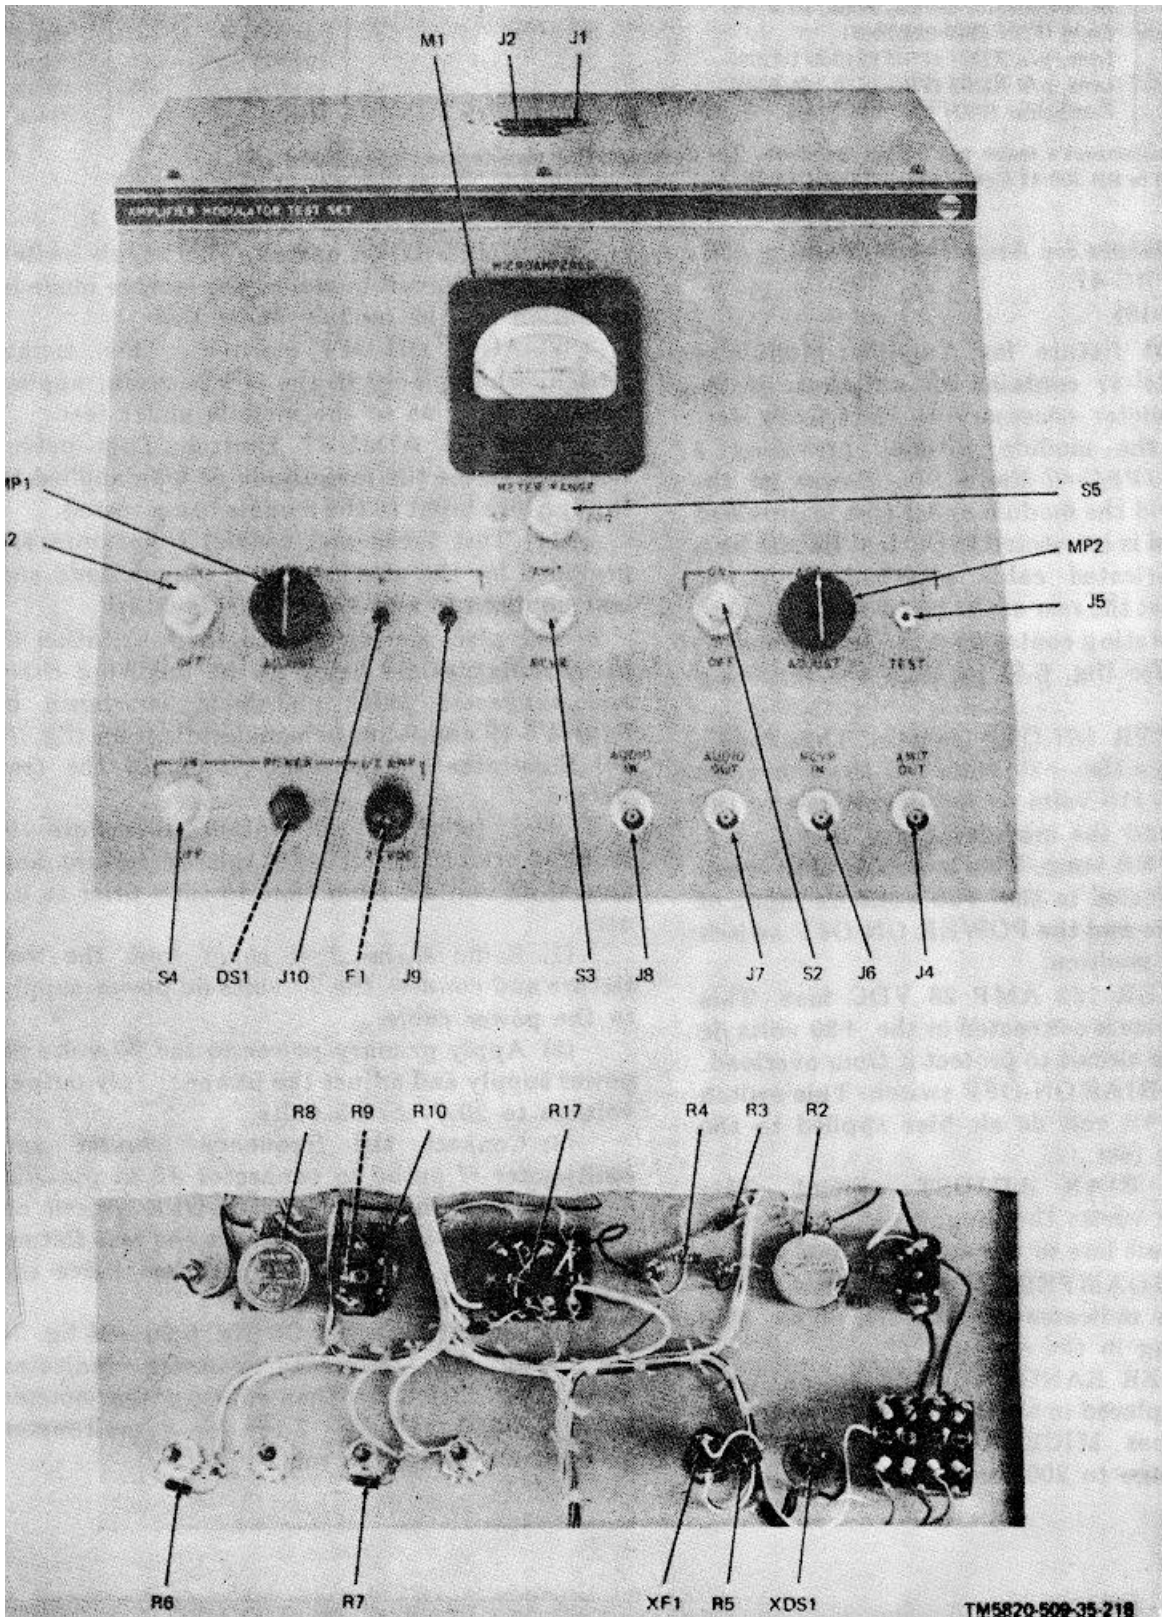
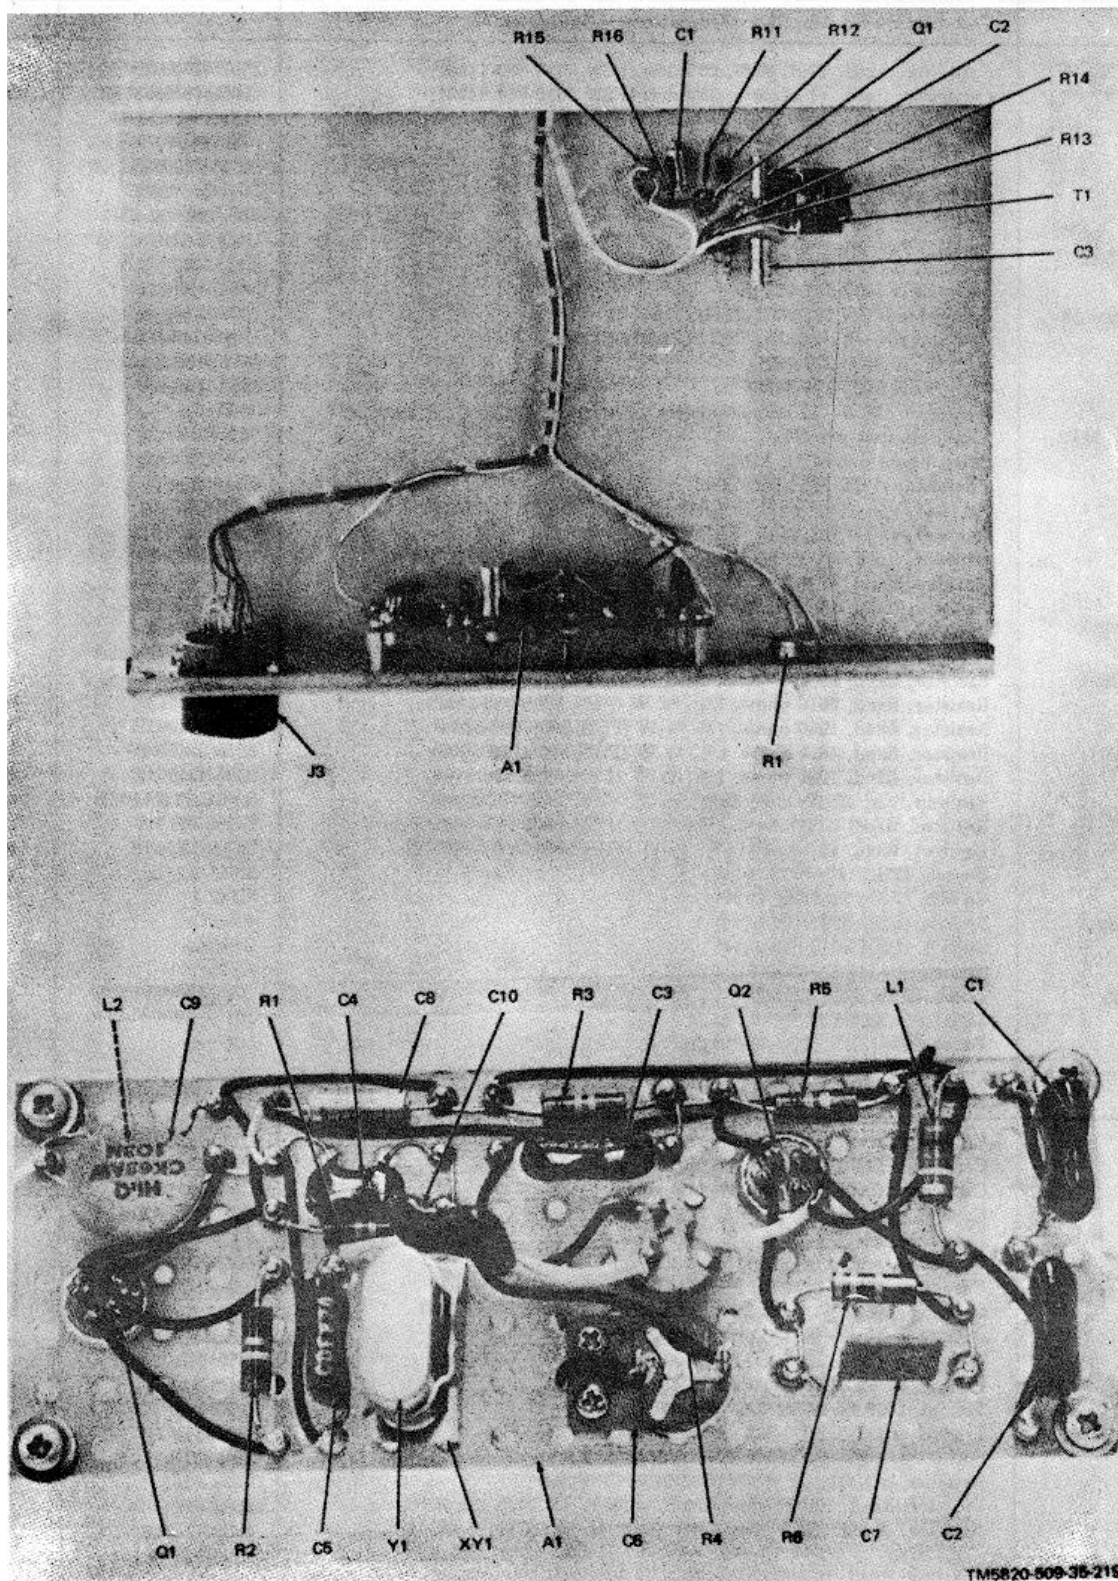

Figure 6-19. Test Fixture for Amplifier-Modulator AM-3507/PRC-47 Parts Location.
Figure 6-20. Test Fixture for Amplifier-Modulator AM-3507/PRC-47, Chassis Parts and Subassembly A1 Placement.
(2) POWER lamp. This indicator is lit when power is connected to the +20 volts dc input of the teat fixture and the POWER ON-OFF switch is in the ON position.
(3) POWER 1/2 AMP 28 VDC fuse. This protective device is connected in the +20 volts dc primary power circuit to protect it from overload.
(4) ALC BIAS ON-OFF switch. This switch controls the +6 volt dc alc bias applied to the module under test.
(5) ALC BIAS ADJUST control. This potentiometer varies the magnitude of effective bias on the -alc line to the module being tested
(6) MICROAMPERES meter. This 0 - 50 microammeter indicates the amount of alc bias current flowing in the module.
(7) METER RANGE 50 - 200 switch. This switch, when placed in the 200 position, connects a shunt across MICROAMPERES meter to extend its range to 200 microamperes.
(8) XMIT RCVR switch. This toggle switch selects the transmit mode, or the receive mode of operation for the module under test.
(9) AGC ON-OFF switch. This toggle switch, when placed in the ON position, applies positive agc bias to the module under test.
(10) AGC ADJUST control. This potentiometer varies the magnitude of bias applied to the agc bias input to the module being tested.
(11) Test jacks and coaxial connectors are provided for the attachment of signal leads and test equipment and are self-explanatory.
c. The piece parts required for fabrication of the test fixture are listed in the following chart and suggested parts placement is shown in figures 6-19 and 6-20. Schematic diagram (fig. 716) illustrates the internal circuit of the test fixture.
(1) Remove the dust cover from the test fixture and connect the 20 volts dc power supply to the power cable.
(2) Apply primary power to the 20 volts dc power supply and adjust the power supply output voltage to 20.0 ± 0.5 volts.
(3) Connect the frequency counter and multimeter rf probe to connector J2 at pin A2.
(4) Place the POWER ON-OFF switch on the test fixture to ON and permit the test fixture to stabilize for at least five minutes. Place the XMIT-RCVR switch to XMIT.
(5) Adjust capacitor C6 (fig. 6-20 and fig. 7. 16) until the frequency counter indicates $500,000.00 \pm 1.0$ Hz; then adjust potentiometer R4 (fig. 6-20 and fig. 7-16) for a multimeter reading of +1.5 volts rms.